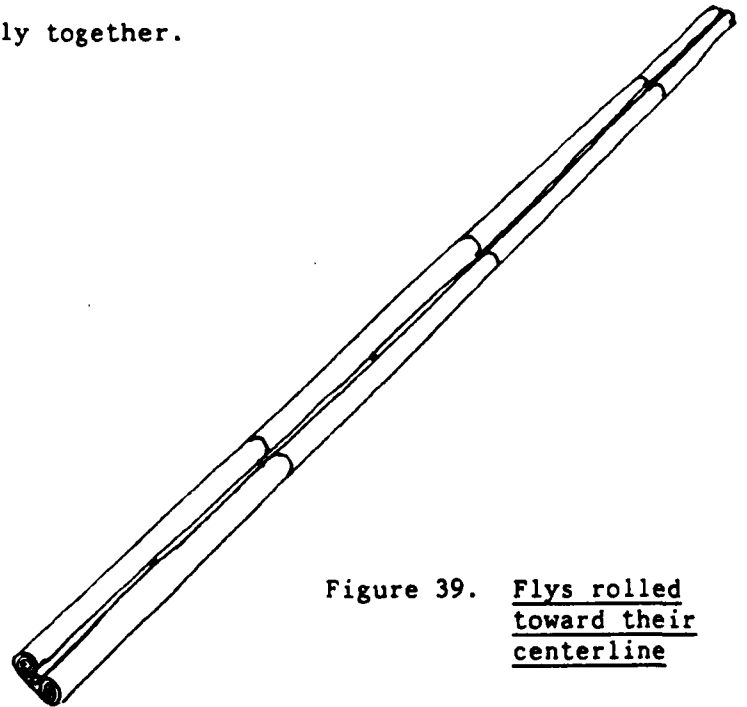

Figure 39. Flys rolled toward their centerline
6. After all of the fly sections are laced together and the guy lines are attached, place the guy lines on the fly material and fold up both sides of the fly to the large central grommet (Figure 39).